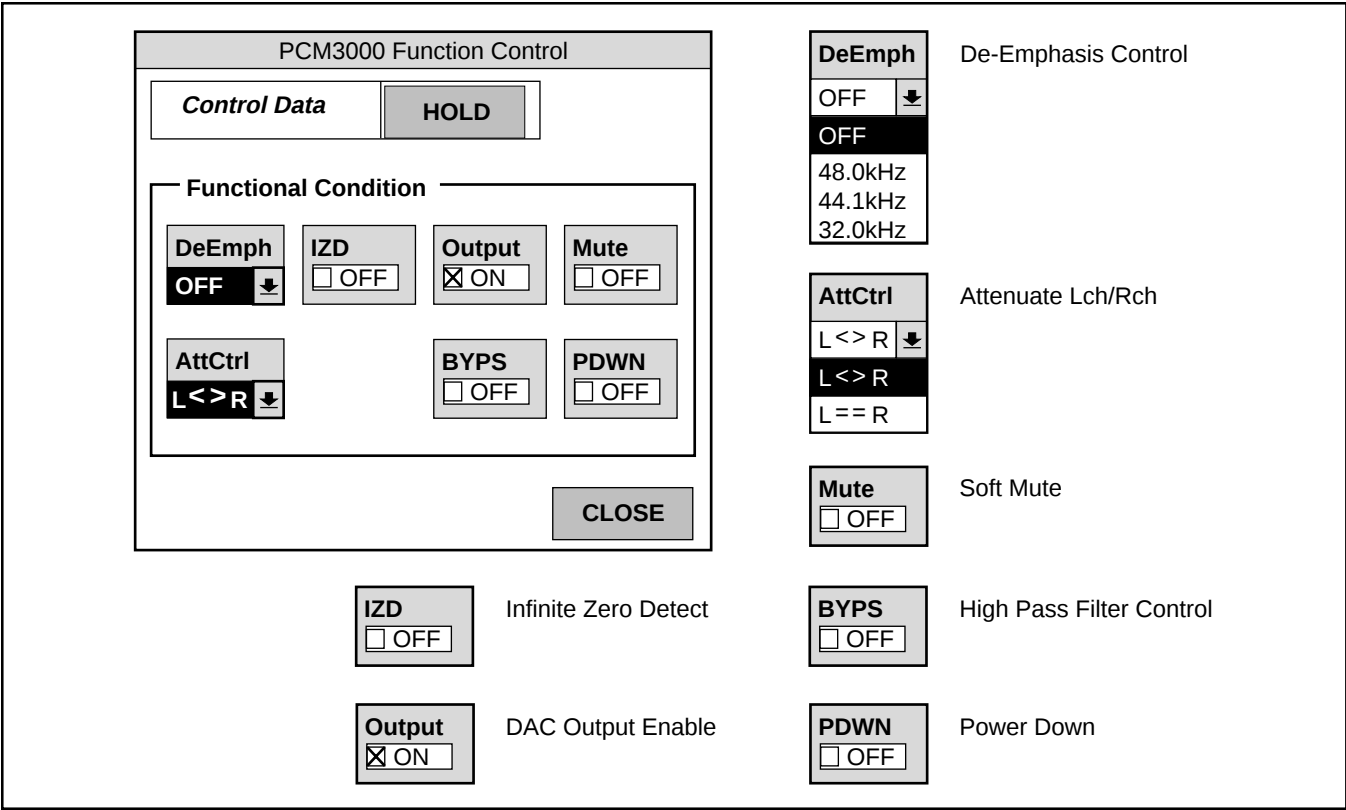

FIGURE 10. PCM3000 Function Control.
When Function (F) is selected from the menu, the Function Control screen is displayed (see Figure 10). The programmable functions that may be controlled are shown in Table II.